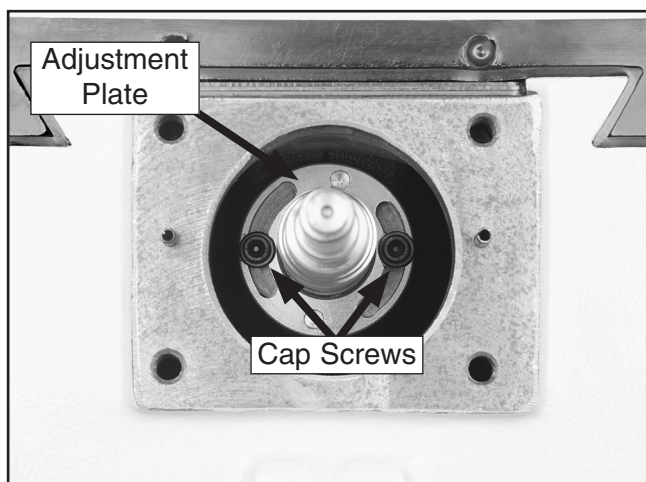

Figure 67. Cross feed leadscrew backlash adjustment plate and cap screws.
7. Use the T-handle 5mm hex wrench to loosen the two cap screws shown in **Figure 67**.